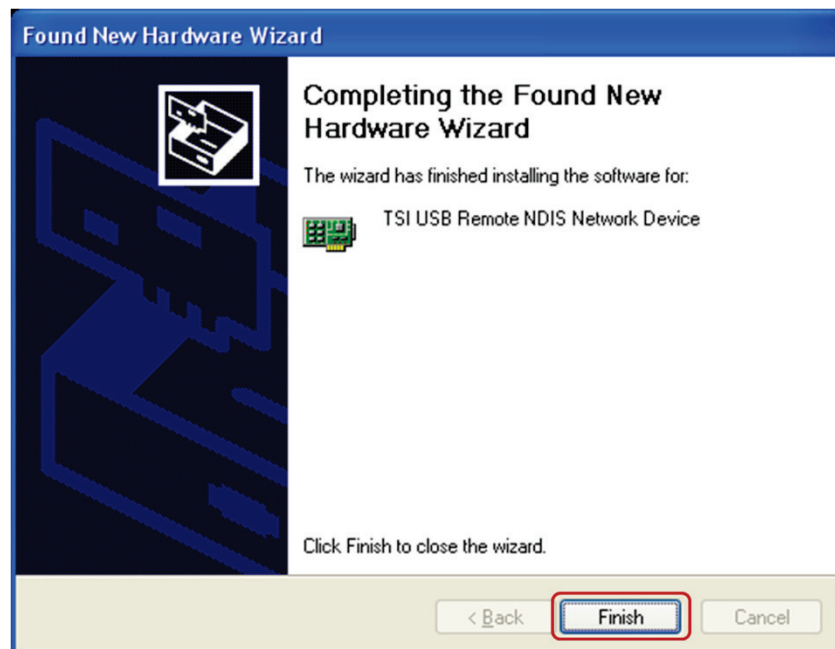

Figure 9
10. Make sure that the device installed without any errors. Select **Finish** to complete the device installation and exit the dialog (Figure 9).